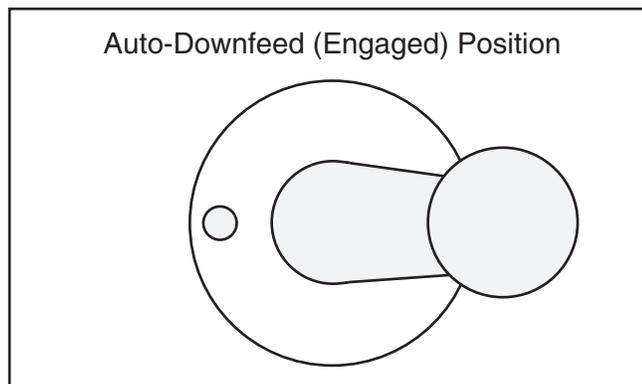

Figure 44. Downfeed selector in auto-downfeed (engaged) position.
2. Pull downfeed selector knob out, then rotate it clockwise until knob pin seats in the auto-downfeed (engaged) detent (see **Figure 44**).